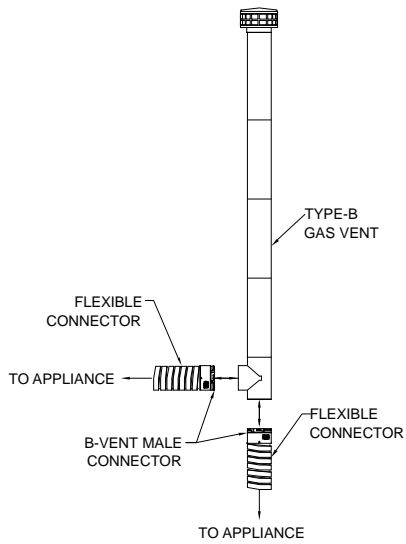

FIG. 3
- c. Inlet end of Type-B gas vent Tee or "Y" (See **FIG. 3**).